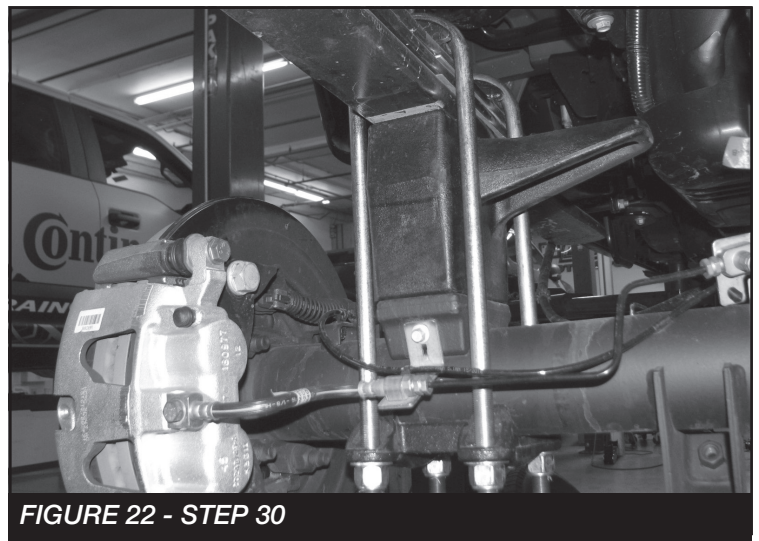

FIGURE 22 - STEP 30
30. With the rear axle supported, remove the rear factory shocks, ubolts and blocks. Install the rear lift blocks FTBK54D & P. The new blocks have an indicator on which direction to be installed. Install the supplied u-bolts, nuts and washers align axle, lift blocks and springs and torque to U-Bolts to 170 ft-lbs. **SEE FIGURE 22**